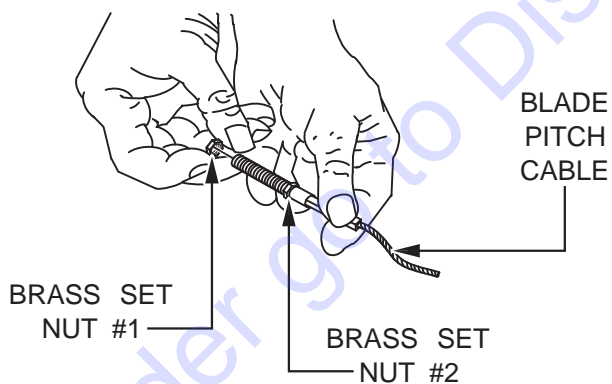

Figure 11. Blade Pitch Cable
- Remove brass set nut #1 from the end of the blade pitch cable (Figure 11).
- Thread brass set nut #2 as far as possible towards the blade pitch cable (Figure 11).